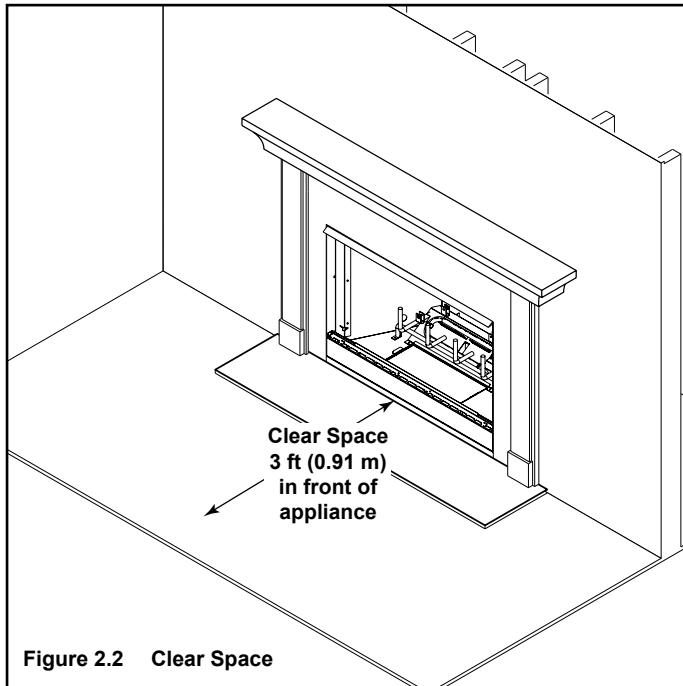

Figure 2.2 Clear Space
**WARNING! DO NOT place combustible objects in front of the fireplace or block louvers.** High temperatures may start a fire. See Figure 2.2.